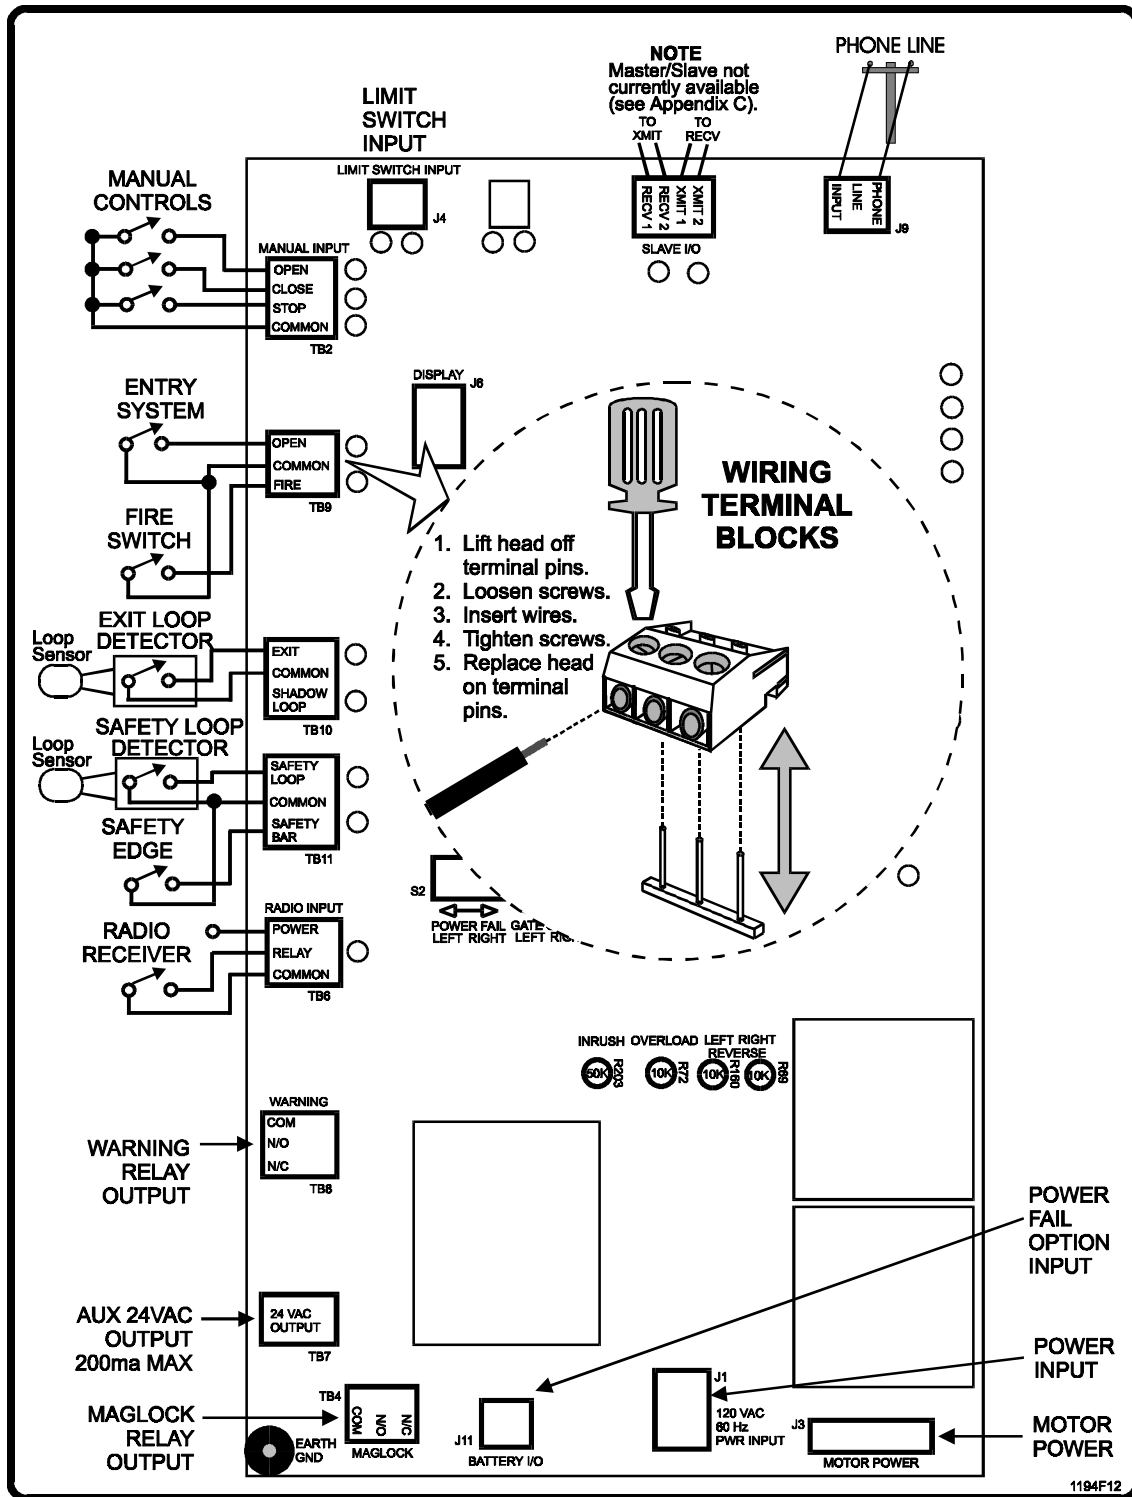

Figure 16. Control Board Wiring.
2. Wire any external control devices to the appropriate connections on the control board (Figure 16). See Appendix A for details on how each control input affects the gate operator.